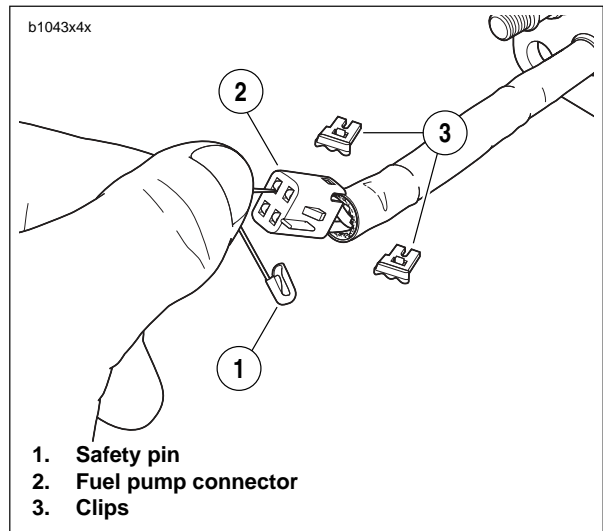

Figure 4-99. Fuel Pump Connector Disassembly
- a. See Figure 4-99. Remove connector clips (3).
- b. Insert push pin/safety pin (1), into connector as shown.